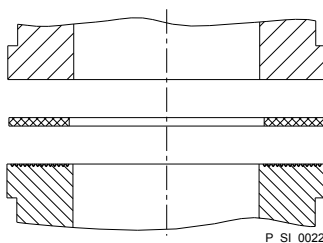

Fig. 16: Elastomer flat seal with an insert without flare
- In the event that an unflared insert is used (e.g. third party part), an elastomer flat seal must be used - see Fig. 16.